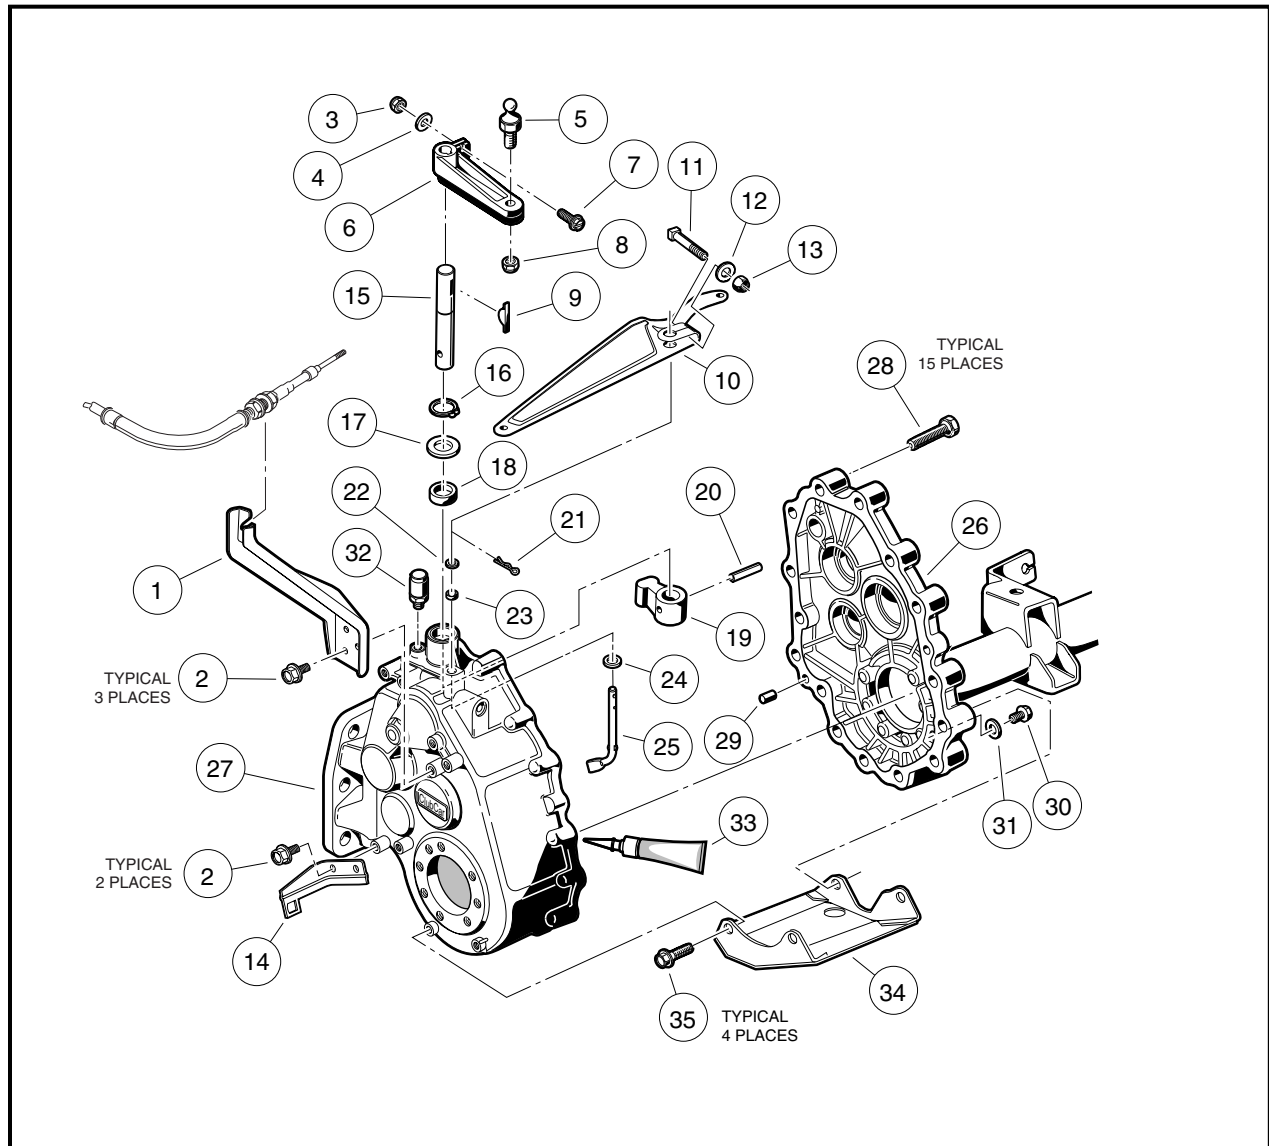
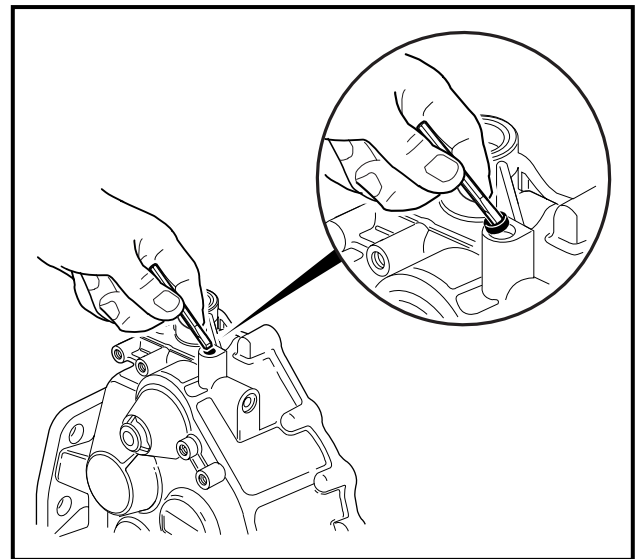

Figure 7-5 Transaxle Gear Casing and Brackets
Figure 7-11 Pivot Arm Oil Seal
4. Remove the four bolts (35) and remove the guard (34) (**Figure 7-5, Page 7-4**).
5. Remove the fifteen bolts (28) that hold the transaxle housing together (**Figure 7-5, Page 7-4**).
- 13.1. Use snap ring pliers (0.047 tip) to remove the retaining ring (16) on the shifter shaft (**Figure 7-5, Page 7-4**).
- 13.2. Remove flat washer (17) from the shifter shaft on the outside of the case as shown, then remove the shifter shaft by pushing it through the case toward the interior of transaxle (**Figure 7-5, Page 7-4**).
- 13.3. Use a seal puller to remove the shifter shaft oil seal (18) from the case (**Figure 7-5, Page 7-4**).
14. Remove the breather (32) from the case (**Figure 7-5, Page 7-4**).
- 15.1. Remove the cotter pin (21) and flat washer (22) from the pivot arm (25) (**Figure 7-5, Page 7-4**).
- 15.3. Use a small chisel or similar pointed instrument to pry the pivot arm oil seal (23) (**Figure 7-5, Page 7-4**) out of the case (**Figure 7-11, Page 7-6**).